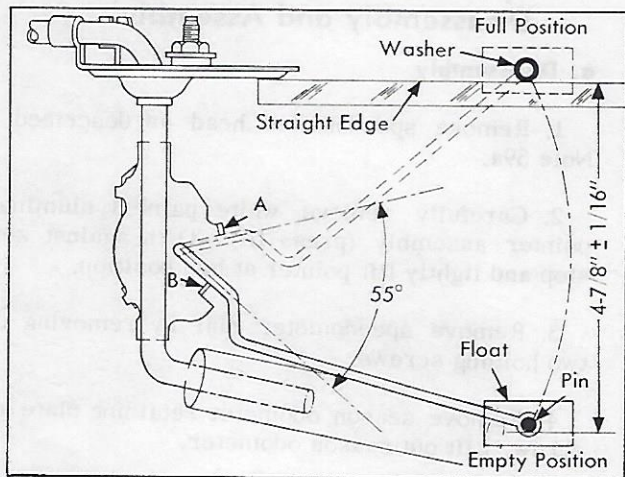

Fig. 12-66 Checking for Bent Float Arm
2. With float arm in "Full" position against stop "A", Fig. 12-66, bottom of float hinge pin
3. Permit float arm to drop down to "Empty" position, against stop "B", measuring distance from bottom of float hinge pin in full position to bottom of float hinge pin in empty position. This distance should be from 4-13/16 to 4-15/16 inches, Fig. 12-66.